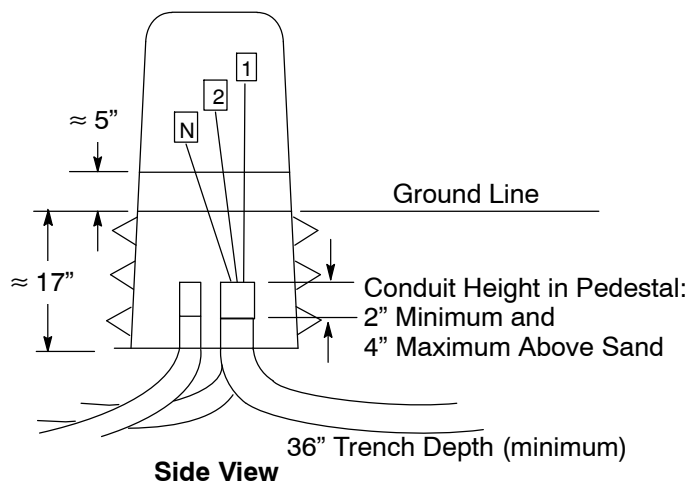

Figure 5
11. All conduits are to be stubbed a minimum of 2" and 4" maximum from ground level inside the pedestal or 1-1/2" min. – 2-1/2" max. from ground level inside the subsurface enclosure. See Figure 5 on Page 5 and Figure 8 on Page 8. End bells are required.